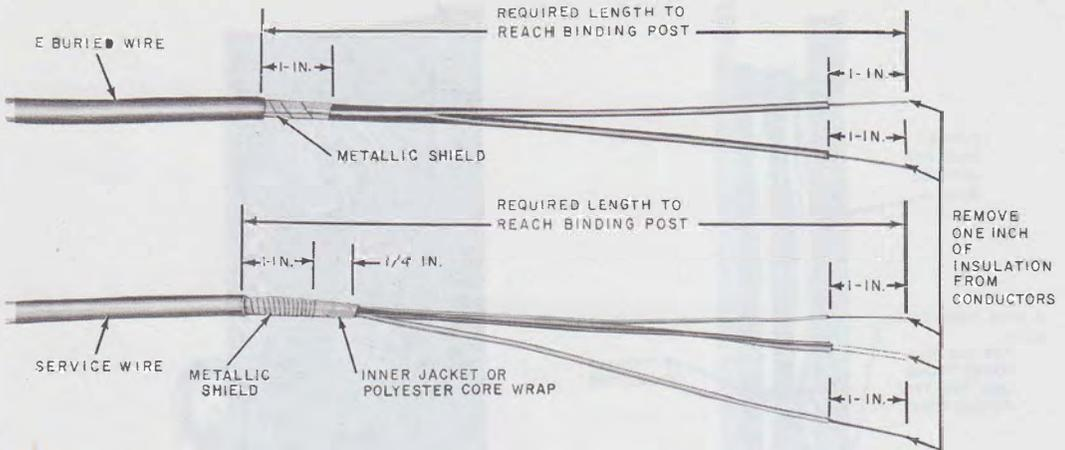
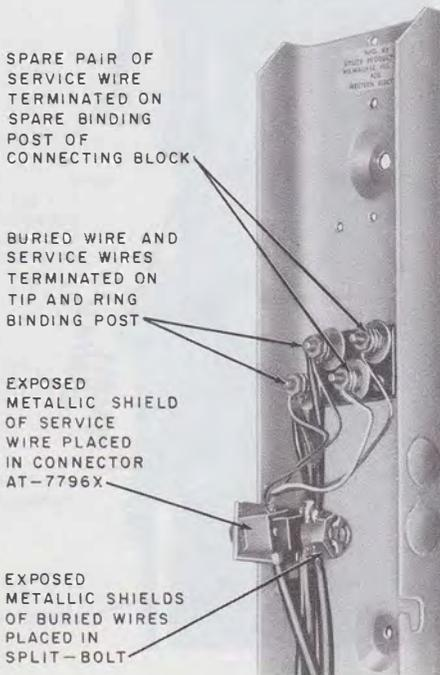

Fig. 23—Prepared Service Wire—D or E Buried Wire Terminal
Fig. 24—Service Wire Terminated—D or E Buried Wire Terminal
6.02 The termination of service wire in either the D or E buried wire terminal is identical. Prepare the service wire as shown in Fig. 23 and terminate as shown in Fig. 24.